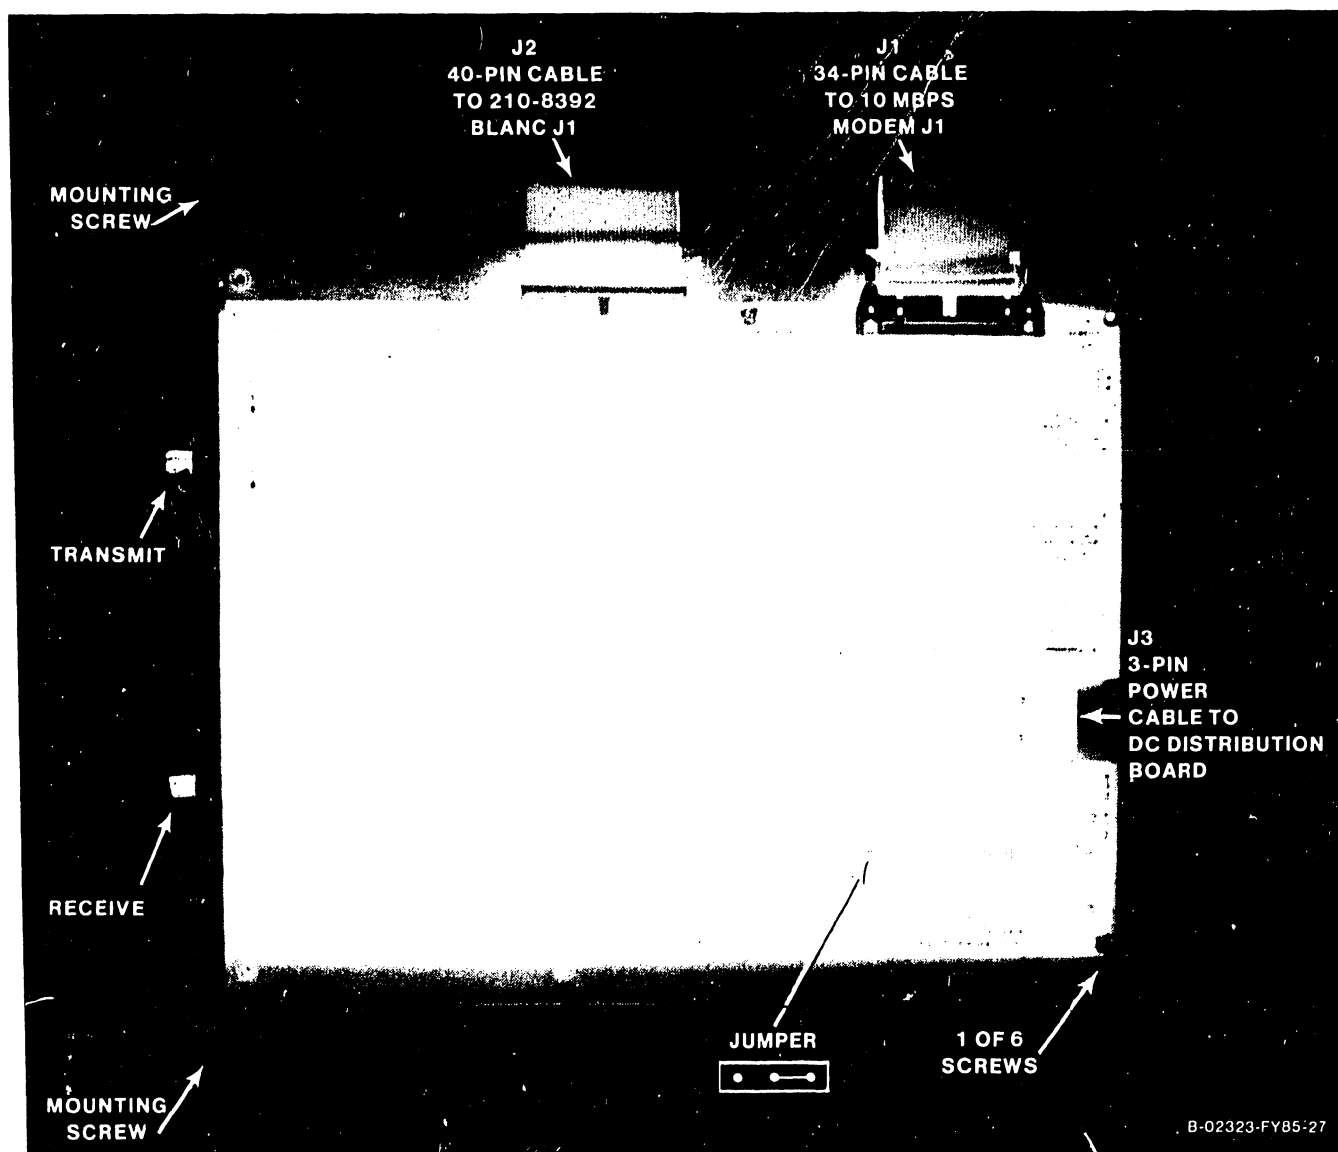
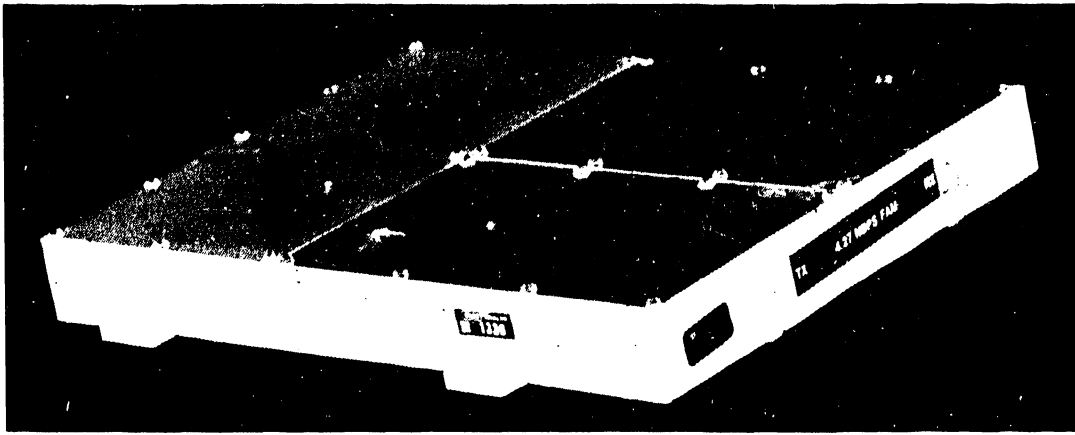

Figure 7-39. 23V79 CIU CAB Board
Figure 7-40. Single Channel 10 Megabit Duobinary Modem
1. The 279-0722 CIU CAB board/Single Channel 10MBPS RF Modem must be replaced as an entire assembly. The 210-8391 CIU CAB board (figure 7-39) is mounted on top of the Single Channel modem (figure 7-40).
8. After checking the 3-position jumper shown in figure 7-39, install the new assembly.